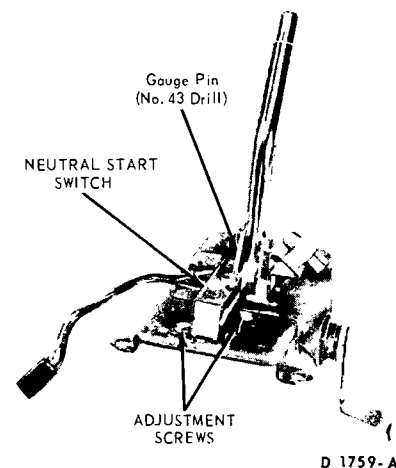

FIG. 24—Starter Neutral Switch-Console Shift
6. Loosen the two combination starter neutral and back-up light switch attaching screws (Fig. 24).
7. Move the selector lever back and forth until the gauge pin (No. 43 drill) can be fully inserted into the gauge pin holes (Fig. 24).
7. With the selector lever in neutral, move the selector lever back and forth until the gauge pin (No. 43 drill) can be fully inserted into the gauge pin holes (Fig. 24).